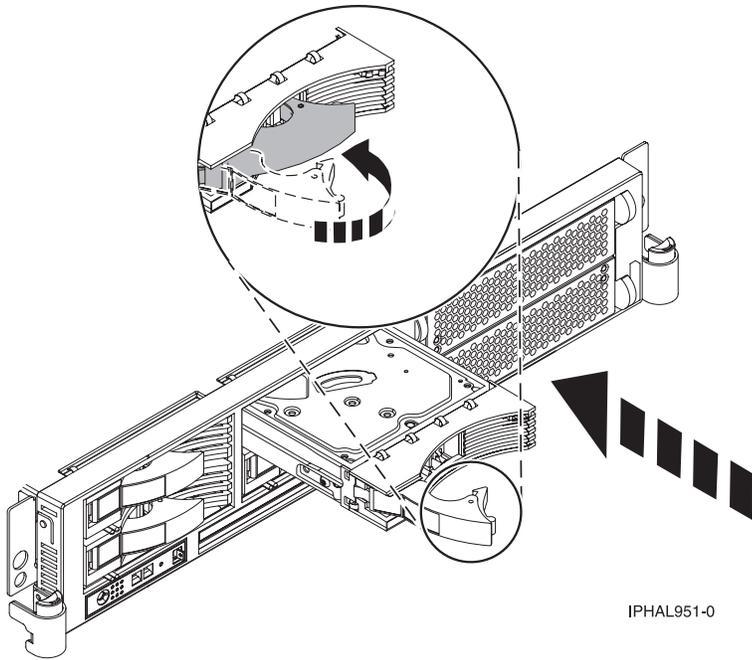
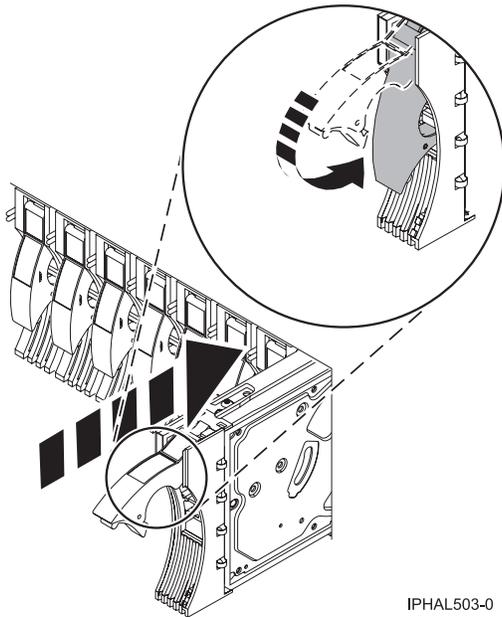

Figure 56. Installing a disk drive in a model 51x or 710
Figure 57. Installing a disk drive in a model 285, 52x, 55x, 9116-561, 570, 720, or 7311-D20
6. Install the disk drive as shown in Figure 56 on page 60 or Figure 57 on page 60.